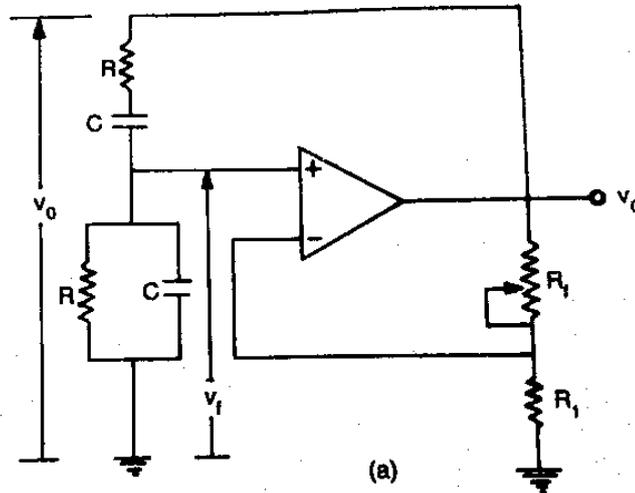

Fig. 3.42 Wien Bridge Oscillator
- The circuit is shown in Fig.3.42. It may be noted that the feedback signal in this circuit is connected to the (+) input terminal so that the op-amp is working as a non-inverting amplifier.